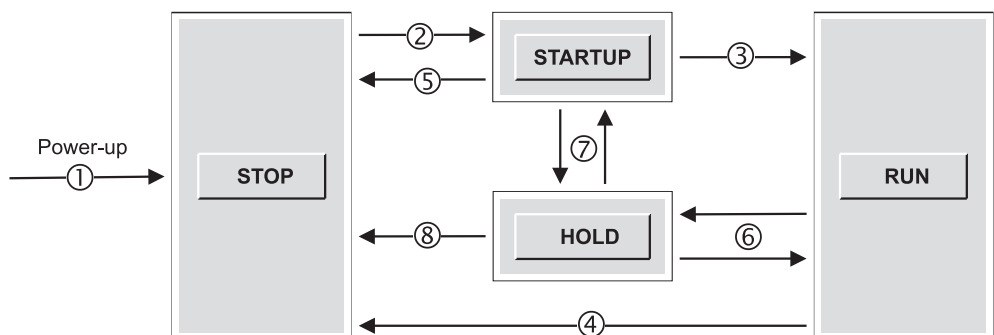

Figure 22.1 CPU Operating Modes
Following power-up ①, the CPU is in the STOP mode (Figure 22.1). If the mode selector on the CPU's front panel is at RUN or RUN-P, the CPU switches to START-UP mode ②, then to RUN mode ③. If an "unrecoverable" error occurs while the CPU is in START-UP or RUN mode or if you position the mode selector to STOP, the CPU returns to the STOP mode ④ ⑤.